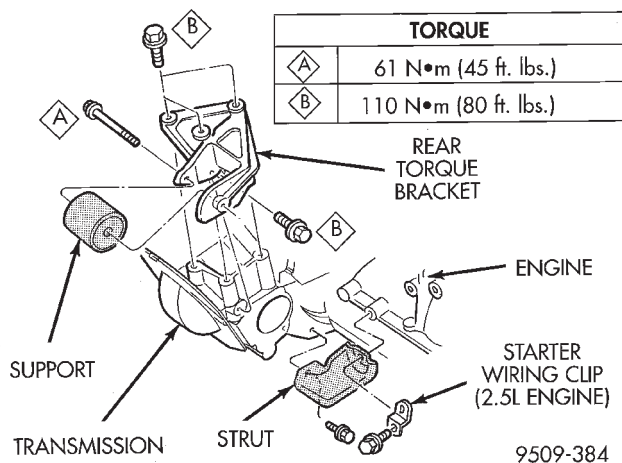

Fig. 17 Engine Mounting—Rear 2.4 and 2.5L
(5) Install thru bolt at rear mount see (Fig. 17) or (Fig. 18) tighten to 61 N·m (45 ft. lbs.).